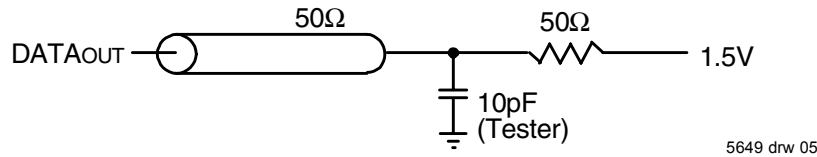

Figure 1. AC Output Test Load
Output Load	Figure 1
5. Transition is measured 0mV from Low or High-impedance voltage with the Output Test Load (Figure 1).